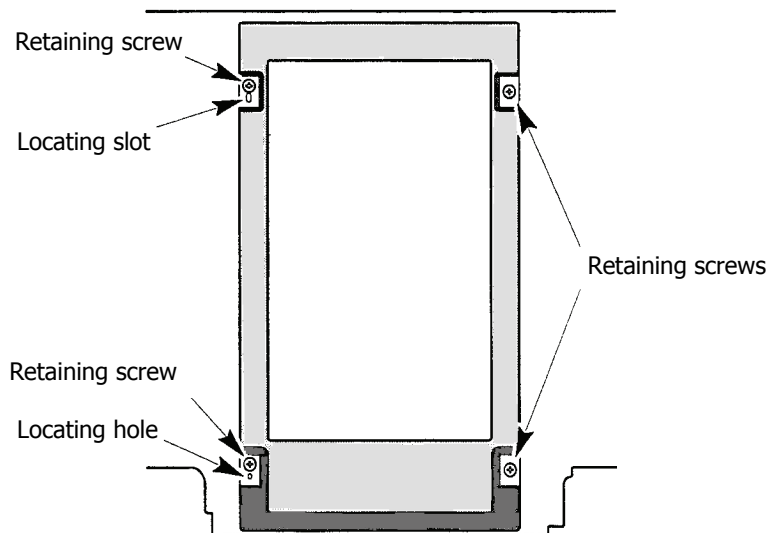

Figure 17 Four retaining screws in the sample compartment
1. After removing the sample compartment cover and baseplate as described above, undo the four retaining screws shown in Figure 17.